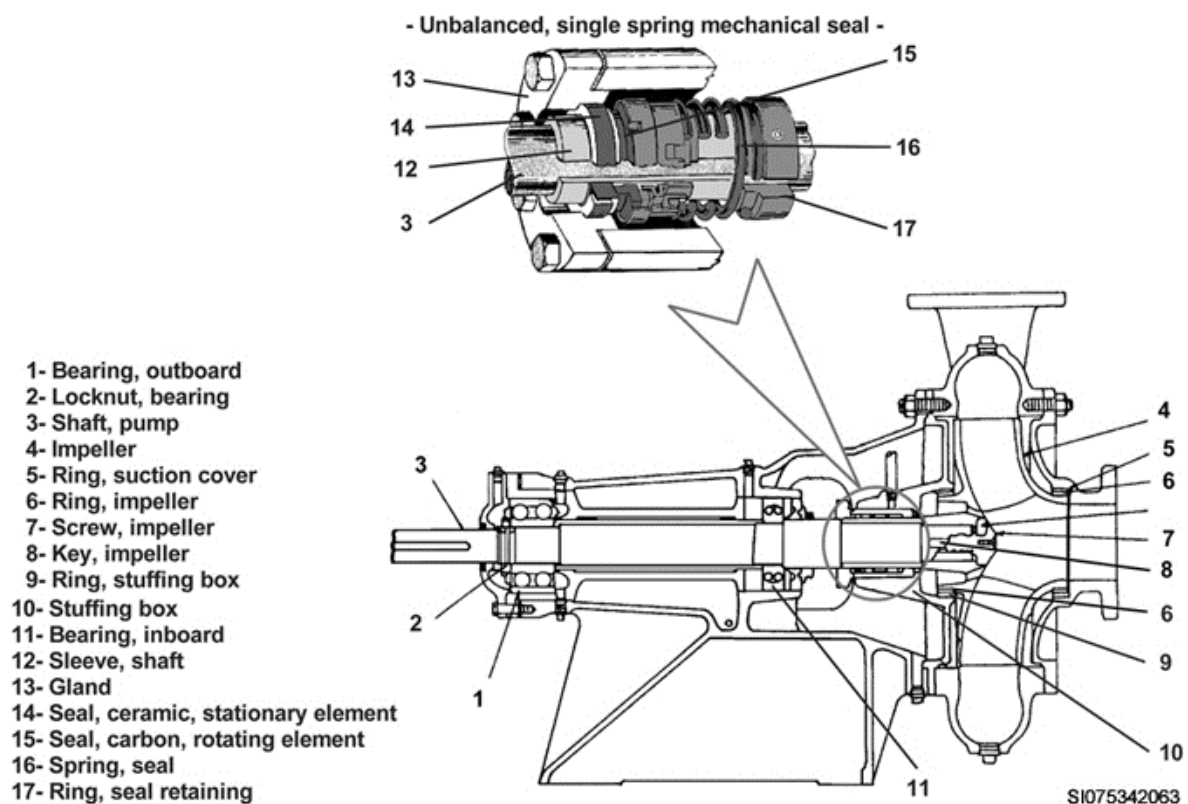

Figure 1-45. Centrifugal pump cross section.
The *stuffing box* (fig. 1-45, item 10) is that portion of the pump where the rotating shaft enters the pump casing. To seal undesirable leakage at this point, manufacturers use a mechanical seal or packing in the stuffing box.
Shaft sleeves (fig. 1-45, item 12) protect the motor or pump shaft, especially with packing.
Ball bearings (fig. 1-45, items 1 and 11) are most frequently used, except in smaller pumps or “circulators,” where motor and pump bearings are the sleeve type.
Rotation of a pump is fixed by the configuration and type of vanes and the suction and discharge connections. An arrow that indicates proper direction is often cast directly into the casing metal (fig. 1-45). In addition to proper position of the pump in the piping, rotation is also dependent on the motor or driven rotation. You must test rotation of both the motor and pump prior to operation. However, do not let pumps with mechanical seals run dry, even when you “bump” them to determine rotation.
Mechanical seals are quickly replacing the conventional packing method used in centrifugal pumps to control leakage. This switch is due to the idea that packing methods waste resources and money, and there have been recent improvements in mechanical seals making them more flexible for all applications. Since there are so many seal types and pump configurations, we'll have to give you generic tips on how to replace the seal. The single-spring, unbalanced type will be the most common type of seal used by the HVAC/R craftsman. If you refer back to figure 1-45, you can see that, even though we are talking about one specific type of seal, there still are several different varieties to choose from.